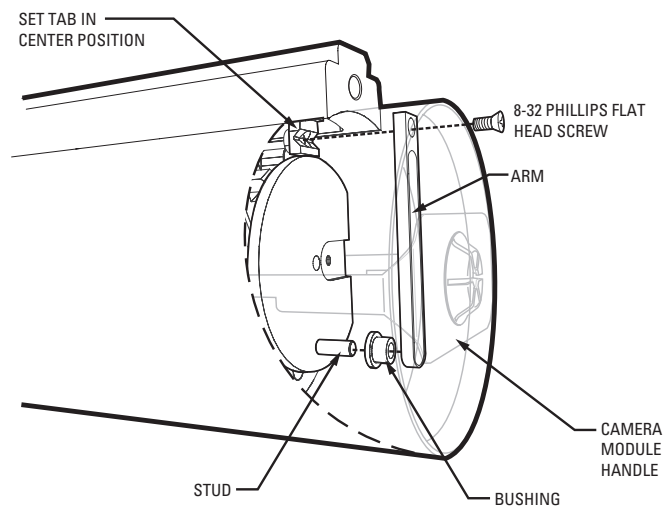

Figure 7. Remove or Install Camera Module
2. Remove the 8-32 Phillips flat head screw that secures the camera module inside the enclosure, refer to Figure 7.
3. For models with wipers, also remove the wiper arm and the green bushing from the unit (see Figure 7).
6. Refer to Figure 7 and do the following to reinstall the arm of the wiper:
7. Secure the camera module and the wiper arm with the 8-32 Phillips flat head screw (refer to Figure 7).